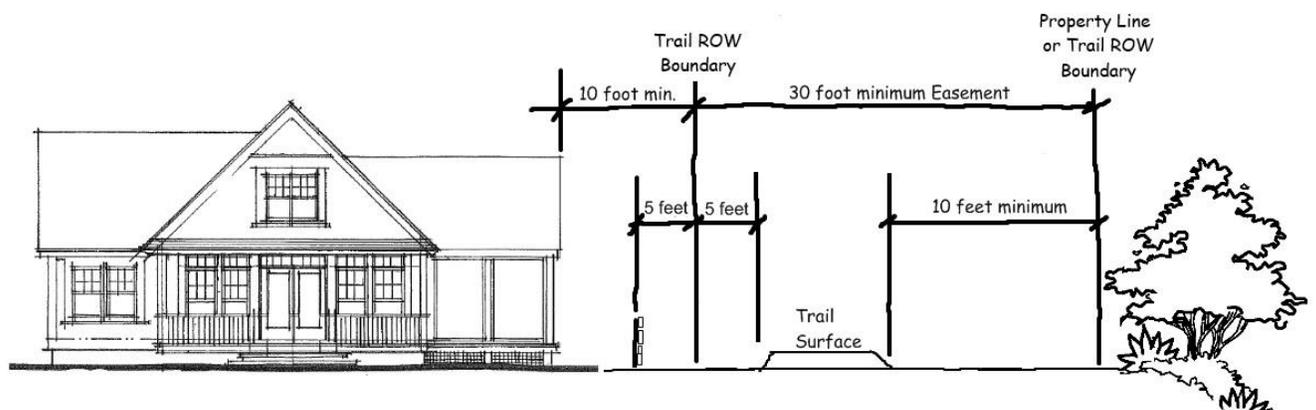

Figure 1 - Example of Minimum Trail Setbacks from Buildings, Other Structures, and Property Lines
3. **Trail Rights-of-Way Shall Allow for Buffering from Other Development (ref. Figure 1)**
- a. The minimum setback from the easement boundary to the outside edge of buildings and other structures shall be ten (10) feet minimum.
- b. The minimum setback from the easement boundary to the outside edge of fences or freestanding walls shall be five (5) feet minimum.
- c. The minimum setback from the outside edge of trail surface to the easement boundary shall be five (5) feet.